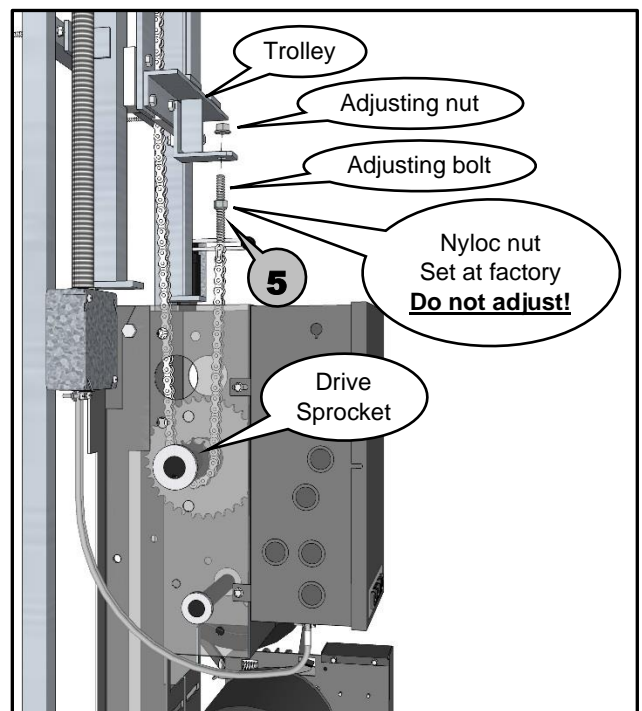

Figure 8
- 5** The other end of the chain should hang down behind the trolley and be placed around the drive sprocket of the motor. Then insert the threaded adjusting bolt, on the end of the chain, into the hole on the bottom of the trolley, where the adjusting nut is tied on, and use the adjusting nut to secure the adjusting bolt to the trolley. Use a blade screwdriver or needle nose pliers to hold chain from twisting and tighten adjusting nut until Nyloc nut is tightly seated against trolley. **Do not adjust Nyloc! (see Figure 8)**
- 7** Cut black plastic tie, next to the drive sprocket, off. (see Page 12, Figure 8, for sprocket location)